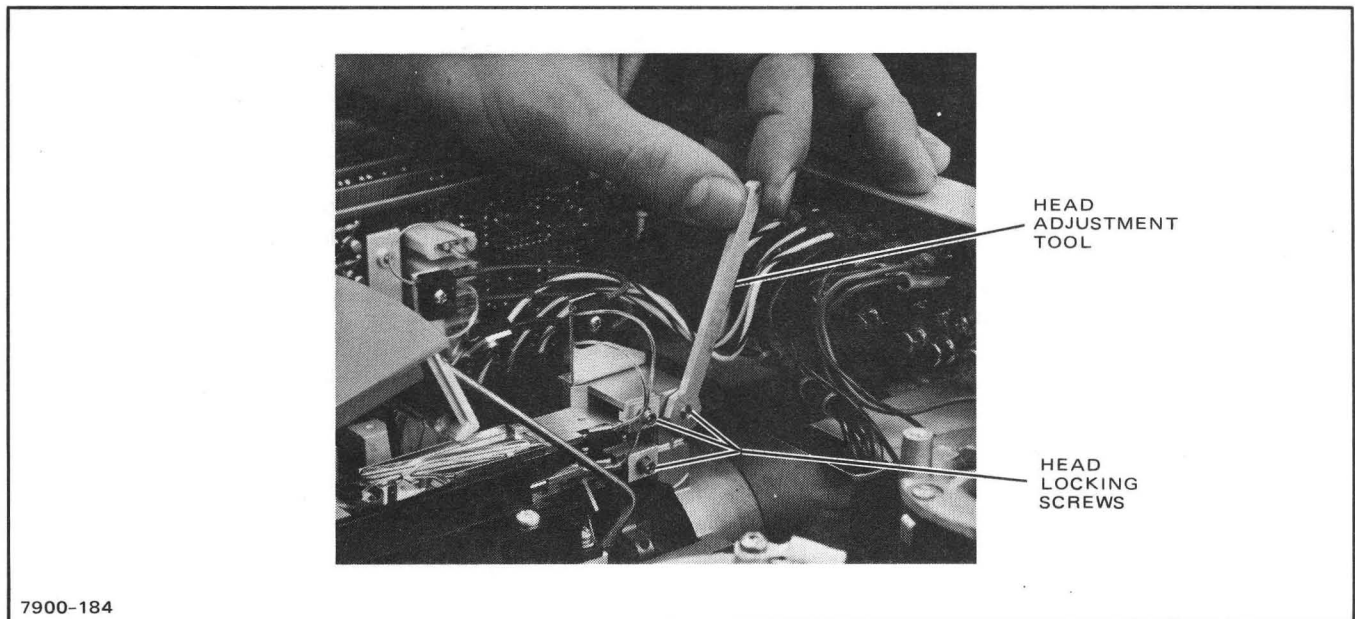
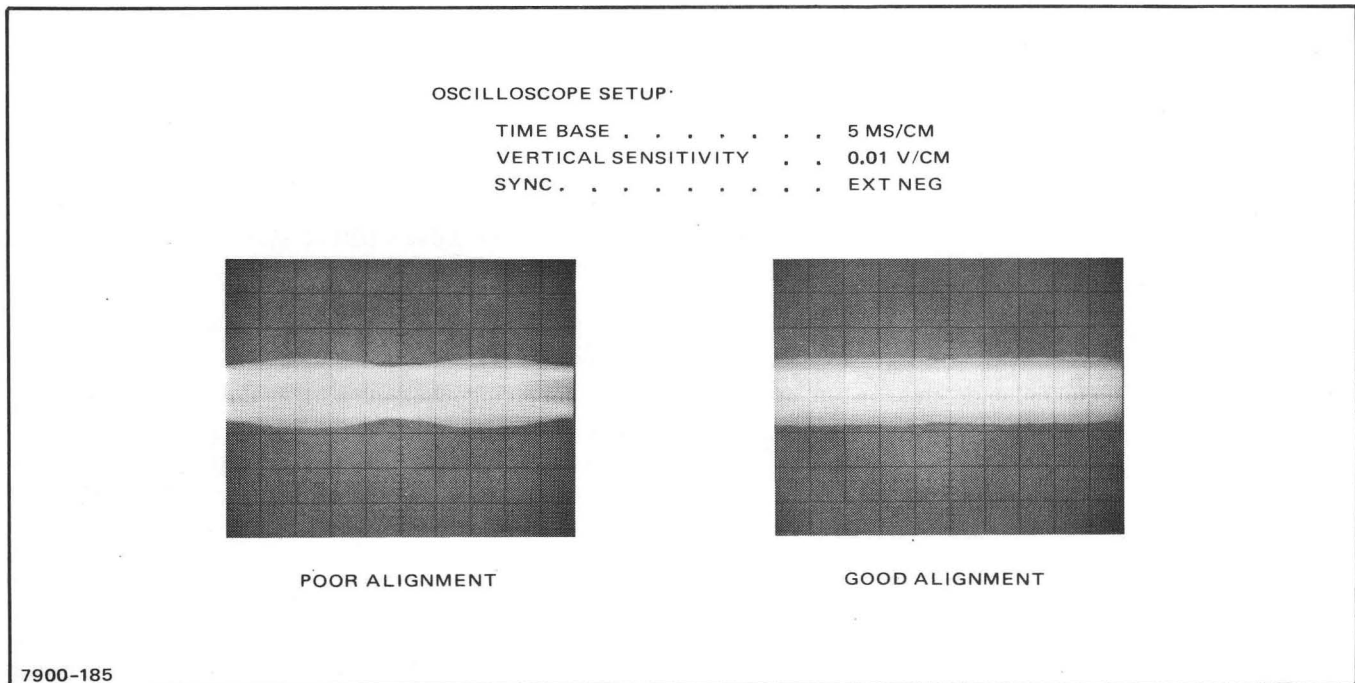

Figure 5-6. Head Alignment
Figure 5-7. Head Alignment Waveforms (Using Alignment Cartridge, Part No. 1535-0066)
- j. Loosen the locking screws holding the head in place. (See figure 5-6.)
- k. With alignment cartridge (part number 1535-0066) installed and using the head adjusting tool (figure 5-6), position the head to minimize amplitude modulation of the output signal. (See waveforms in figure 5-7.) If alignment cartridge (part number 1535-2531) is used, attach oscilloscope channel B to A8TP4. Adjust oscilloscope to obtain presentation shown in figure 5-8, channel B. Vary the time base vernier for index pulses at the beginning and end of trace. Connect the channel A probe to A13TP2. Using the head adjusting tool (figure 5-6), position the head to obtain the presentation shown in figure 5-8, channel A. The composite view shows the desired waveforms for both channels.